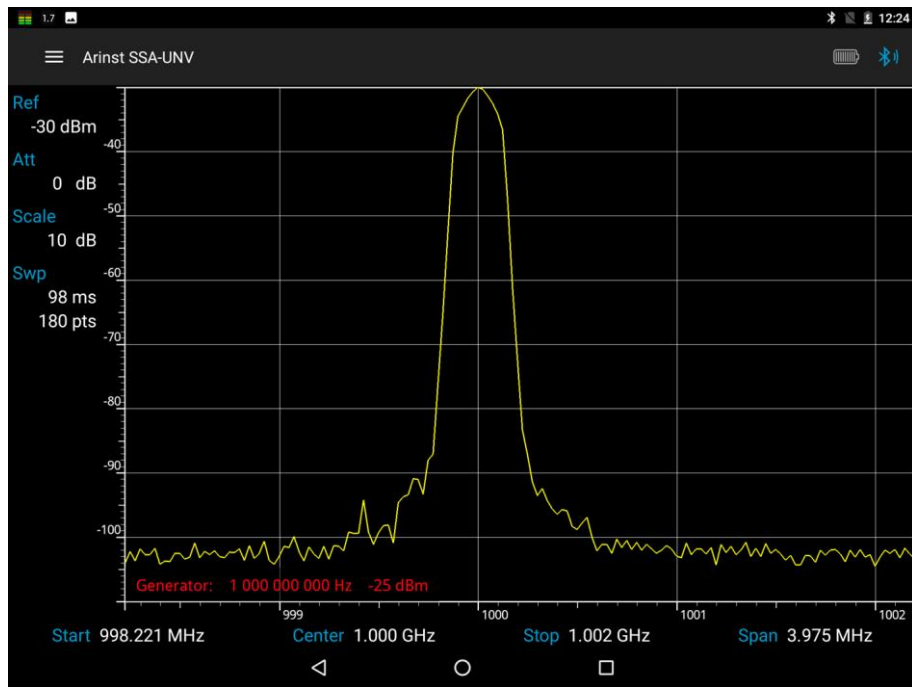

Figure 68 – Graph of the signal spectrum of the internal generator
9.1.4. On the screen of your tablet/smartphone, will display a graph of the spectrum set the output of the internal oscillator of the device, figure 68.